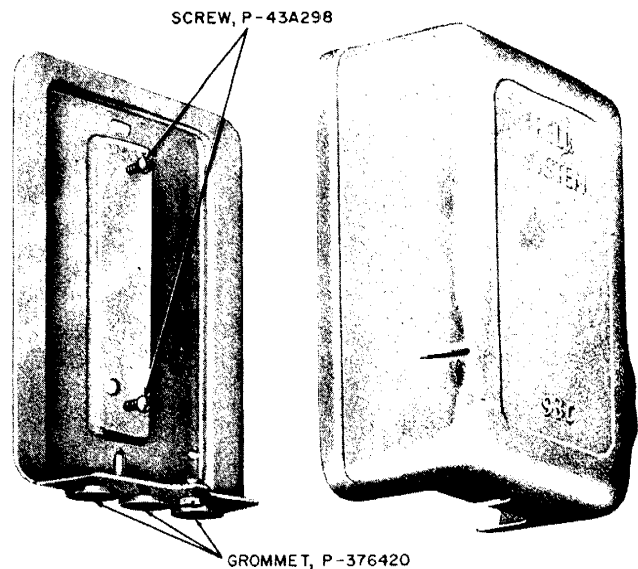

Fig. 12—93C Protector Mounting
- 3.09** The 93C Protector Mounting consists of a metal base and removable metal cover. It is provided with two screws for fastening the protector to the metal base (Fig. 12).